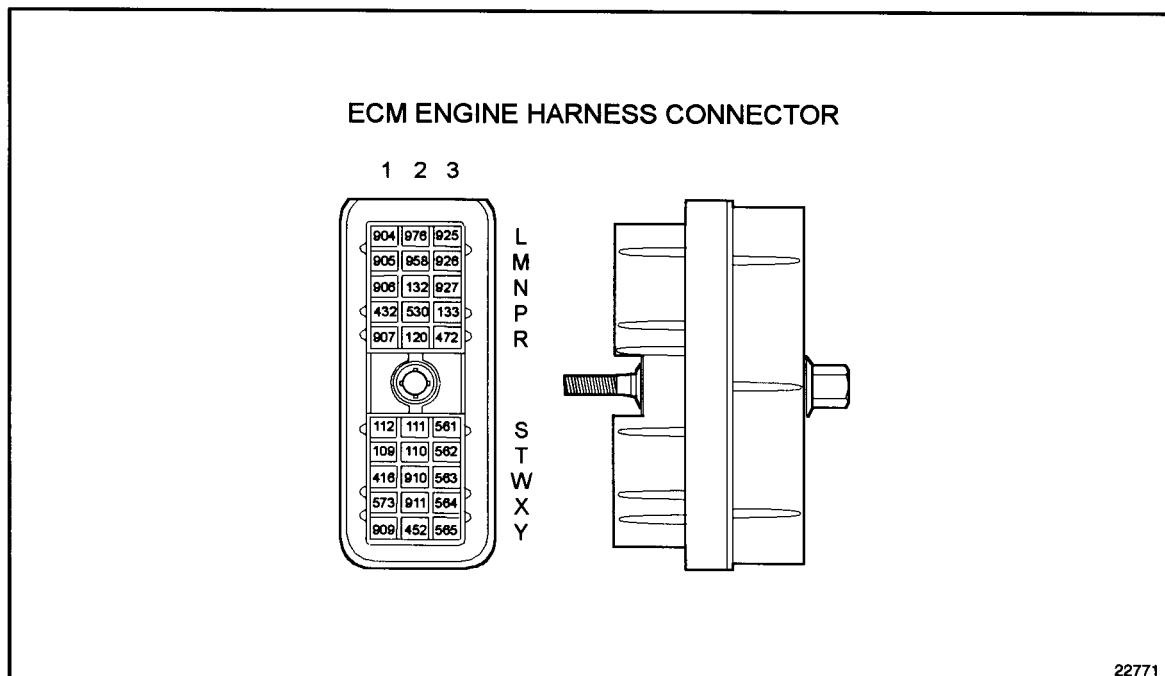

Figure 23-6 ECM Engine Harness Connector
1. Check terminals at the ECM harness connector (both ECM and harness side) for bent, corroded, and unseated pins or sockets. See Figure 23-6.